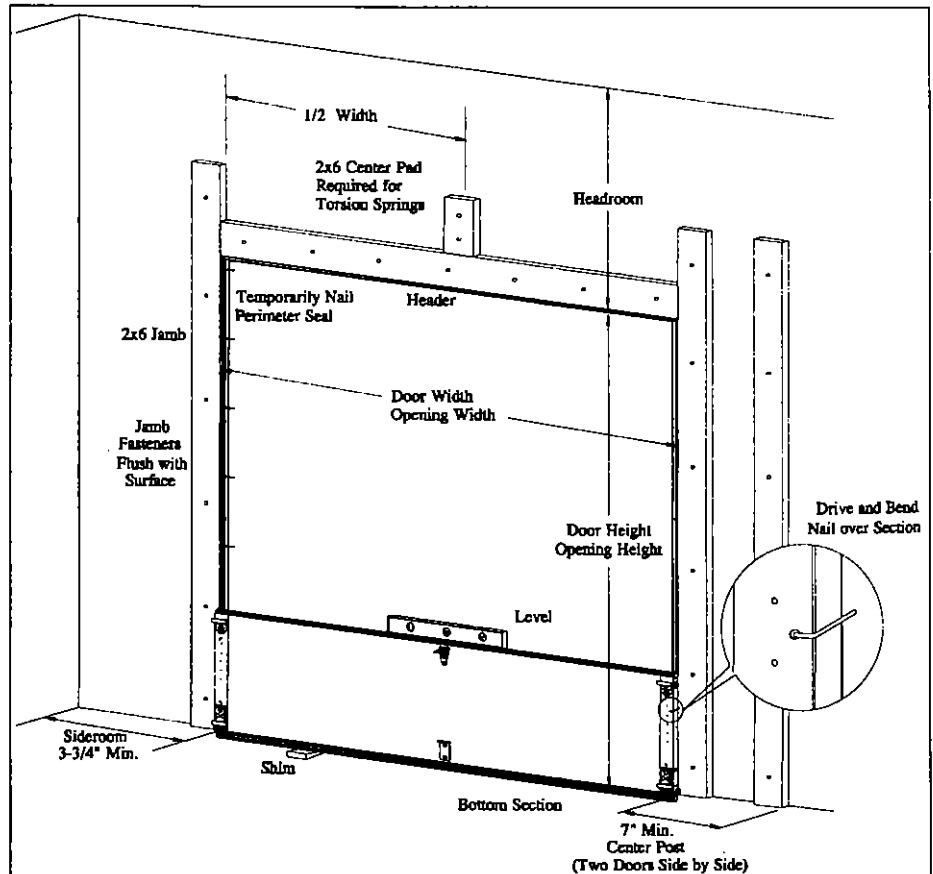
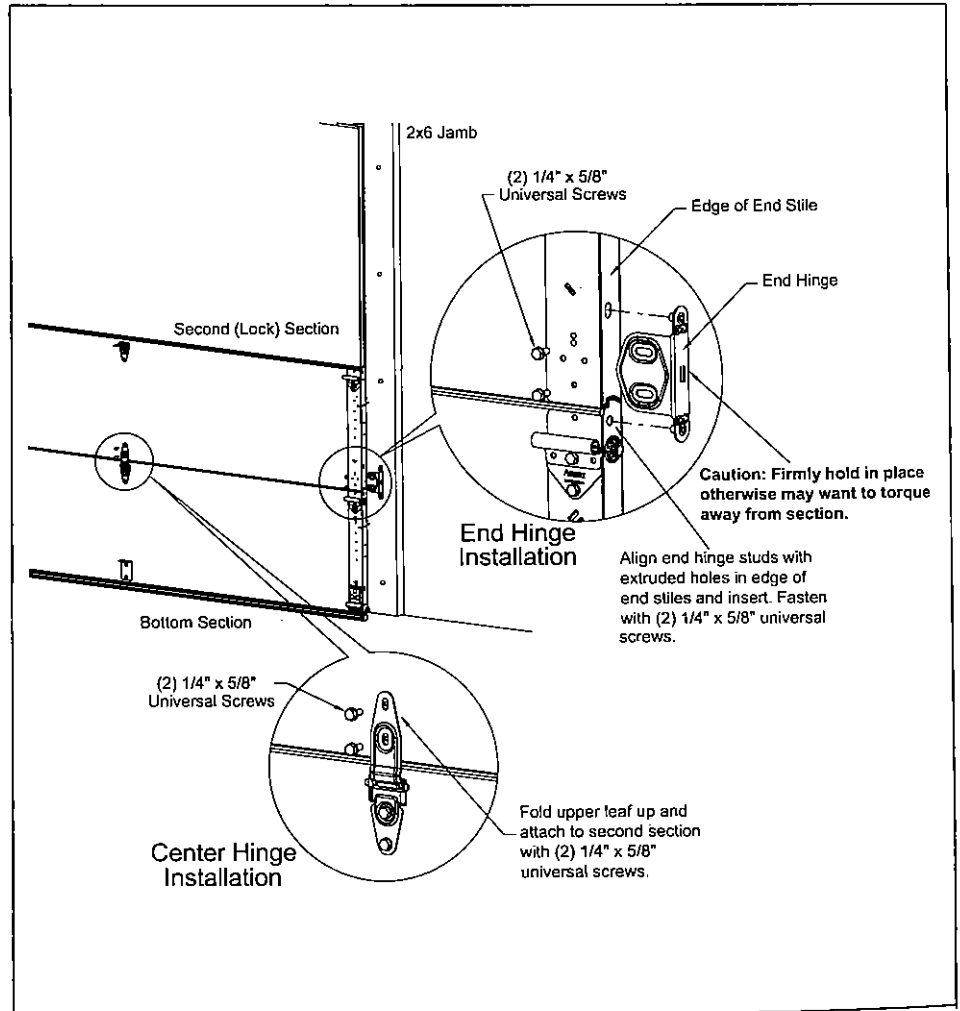

FIGURE 1
FIGURE 5
The garage door opening **must** be the same size as the door, (Figure 1). The opening should be framed with 2"x6" wood jambs. The jambs must be plumb and the header level for a square opening. The jambs should extend to the same height as the headroom required, (Table 1). All jamb fasteners should be flush with jambs and securely anchored to the wall. Temporarily nail the perimeter seal to the edges of the jambs, flush with the inside (Figure 1).
Place the hardware bottom section in opening against the perimeter seal and centered from side to side. Place a level on the top of the section. If necessary, use piece of wood as a shim under the low side to make level (Figure 1). Note: If it was required to raise one side of the bottom section to level it, that sides vertical track must be raised up the same distance for the door to operate properly. Temporarily secure section in opening by driving a 16-penny nail in the jamb at each end of section and carefully bend it over the edge of the section to secure in place (Figure 1). Make sure that section is securely held in place.
Place the hardware second (lock) section on top of the bottom section and against the perimeter seal. Temporarily secure section in opening by driving a 16-penny nail in the jamb at each end of section and carefully bend it over the edge of the section to secure in place (Figure 1).
Once section is secured, fold upper leaves of center hinges up and attach to second section using (2) 5/16" x 5/8" universal screws (Figure 5).
Align the end hinge studs with the extruded holes in the edge of the end stiles and insert. Secure with (2) 1/4" x 5/8" universal screws (Figure 5).
Secure with (2) 1/4" x 5/8" universal screws (Figure 5).
Place the hardware third section on top of the second (lock) section and against the perimeter seal. Temporarily secure section in place as before (Figure 1). Repeat Steps 5a and 5b (Figure 5). **Note:** If you have two sections remaining, repeat Step 6 using a #4 roller carrier and Step 7 for the fourth section.
Stacking Top Section in Opening - Place the hardware top section on top of the third or fourth section and against the perimeter seal. Temporarily secure section in place as before (Figure 1). Repeat Step 5a (Figure 5).